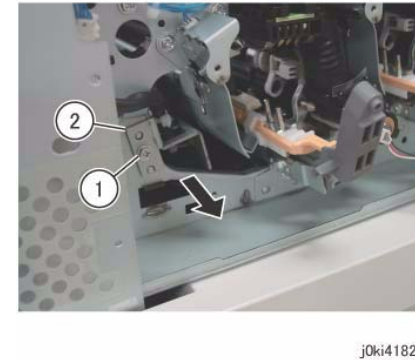

Figure 10 Remove the MOB ADC Assembly
12. Remove the MOB ADC Assembly. (Figure 10)